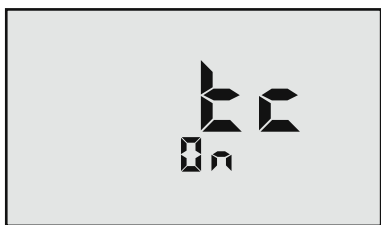

Figure 10
2. Press  repeatedly until “**tc On**” is displayed (see Figures 10 and 11).